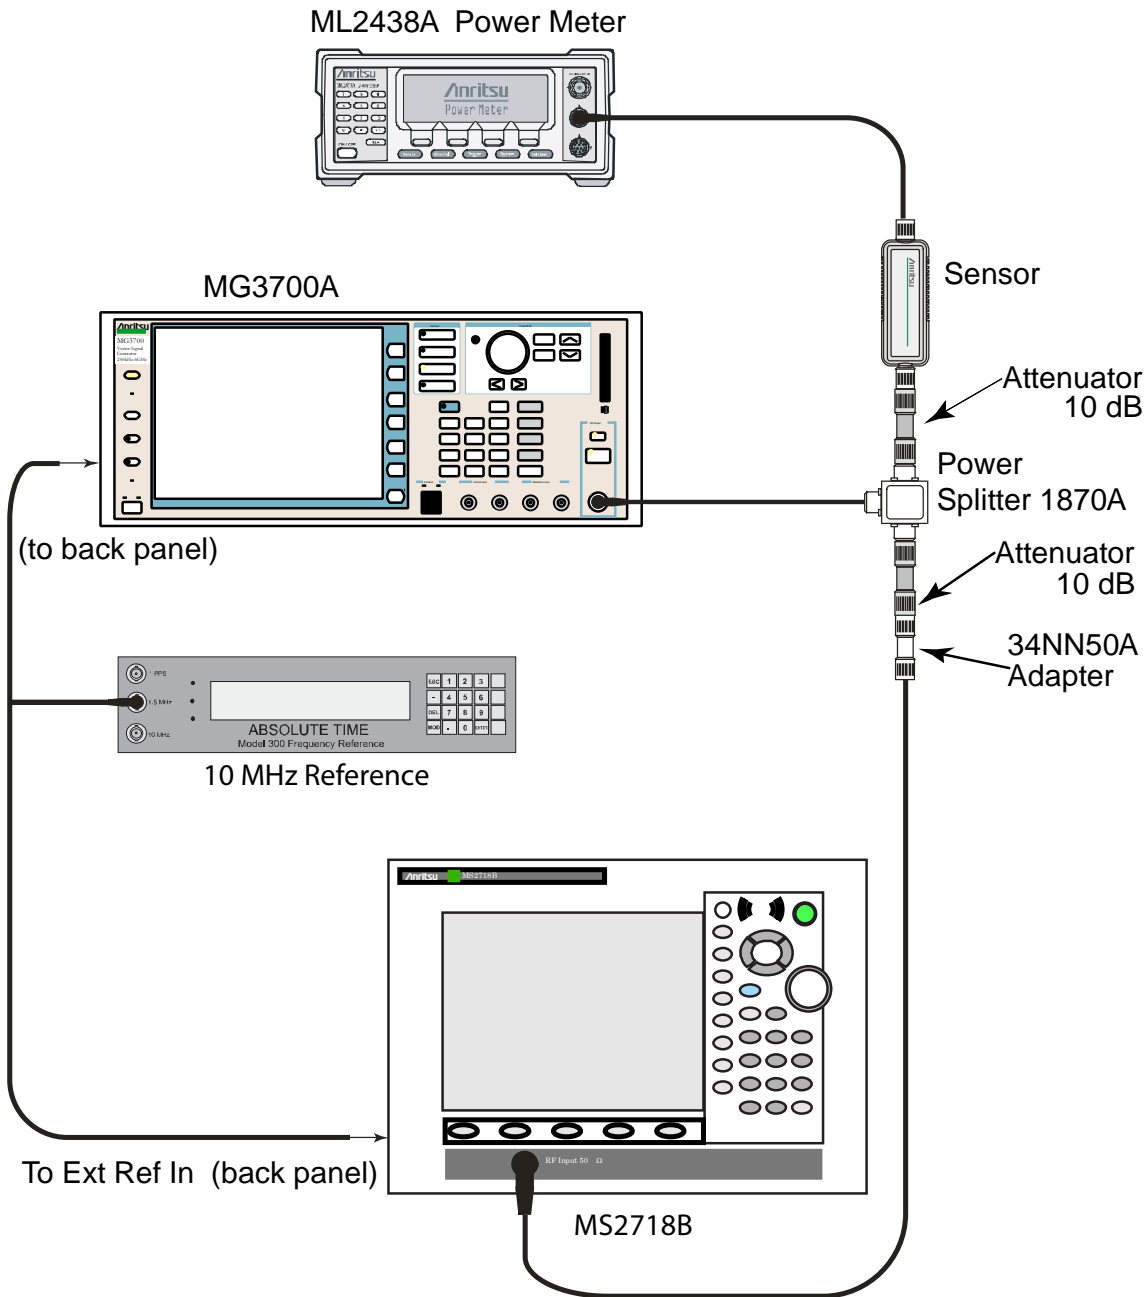

Figure 3-5. WCDMA OBW Verification Test Setup
3. Connect the MG3700A, splitter, attenuator, sensor, and power meter as shown in Figure 3-5.
4. Press the **On/Off** key to turn on the MS2718B, MS2719B and wait until the measurement display appears. Then press the **Shift** key, and then press the **Mode** (9) key to activate the mode selection menu.
6. Press the **Shift** key, the **Preset** (1) key, and then the Preset soft key.
3. Connect the MG3700A, splitter, attenuator, power meter, and sensor as shown in Figure 3-5 on page 3-14.
6. Press the **Shift** key, the **Preset** (1) key, and then the **Preset** soft key.
3. Connect the MG3700A, splitter, attenuator, power meter, and sensor according to Figure 3-5, “WCDMA OBW Verification Test Setup” on page 3-14.